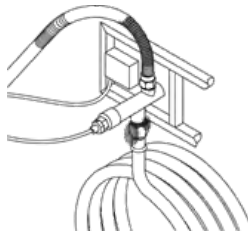
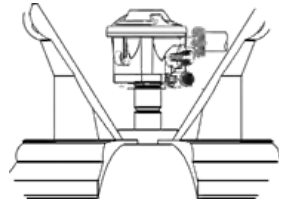

figure 11
figure 12
3. Apply several drops of solution where hose attaches to appliance gas inlet (figure 11) and where the regulator attaches to the hose (figure 12). If **NO** bubbles appear, the connections are secure. If bubbles appear, the connection has a leakage. Disconnect, reconnect, perform another leak check. If the bubbles continue to appear after several attempts, the part is defective and needs to be replaced.